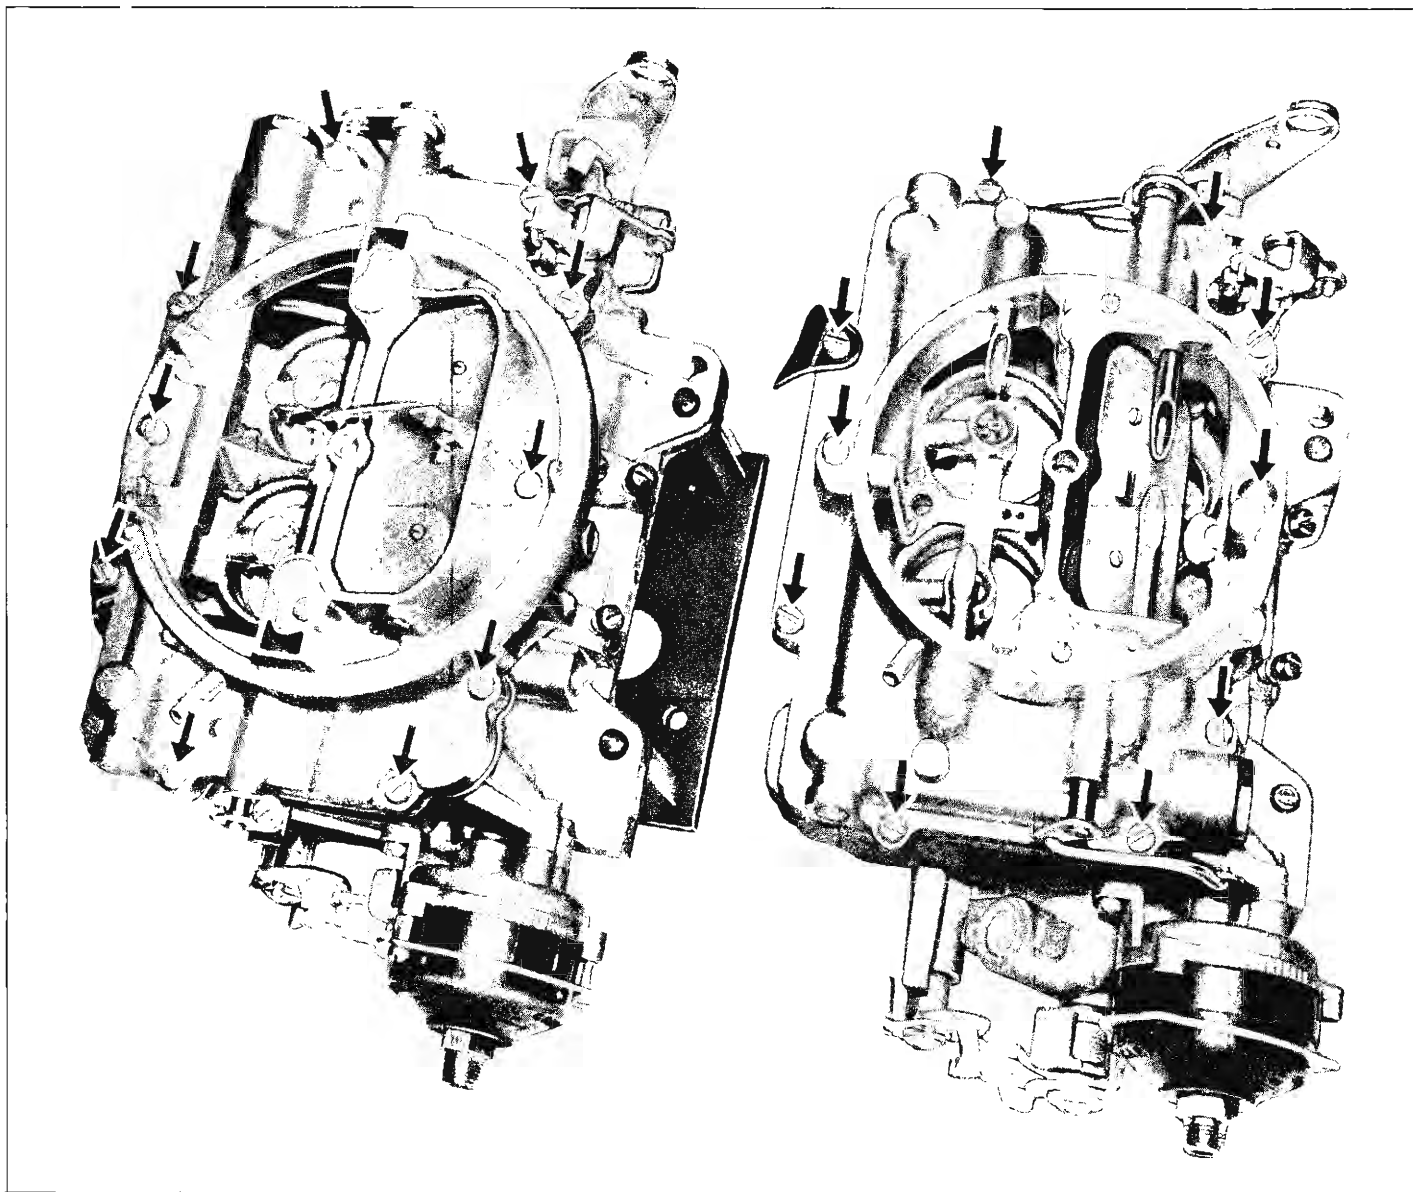

Fig. 13—Bowl Cover Attaching Screws
4. Remove bowl cover attaching screws and carefully remove bowl cover (figs. 13 and 14).